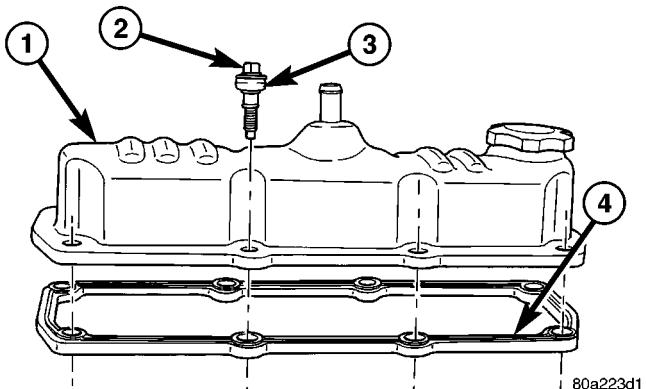

Fig. 25 CYLINDER HEAD COVER GASKET
(1) Clean cylinder head and cover mating surfaces. Inspect cylinder head cover surface for flatness. Replace gasket as necessary.
(2) Inspect seal on the cover bolt for wear or damage (Fig. 25). Replace bolt assembly as necessary.
NOTE: The cylinder head cover bolts contain a torque limiter sleeve and a seal (Fig. 25). The seal and torque sleeve is replaced with the bolt.
- (3) Assemble gasket to cylinder cover by inserting the bolt assemblies through each bolt hole on the cover and gasket (Fig. 25).
- (1) Clean cylinder head and cover mating surfaces. Inspect cylinder head cover surface for flatness. Replace gasket as necessary.
- (2) Assemble gasket to cylinder cover by inserting the fasteners through each bolt hole on cover and gasket (Fig. 25).